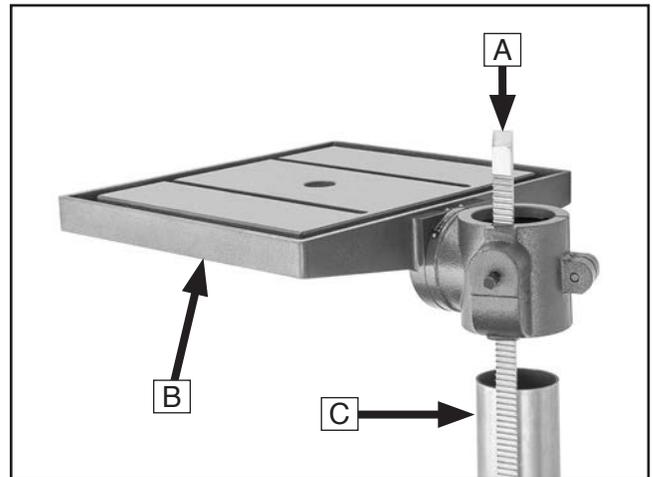

Figure 11. Example of sliding table assembly and rack over column.
4. **T34611 Only:** Place the rack (see **A** in **Figure 11**) inside of the table assembly (see **B** in **Figure 11**), mesh it with the pinion, and slide the table assembly over the column (see **C** in **Figure 11**).